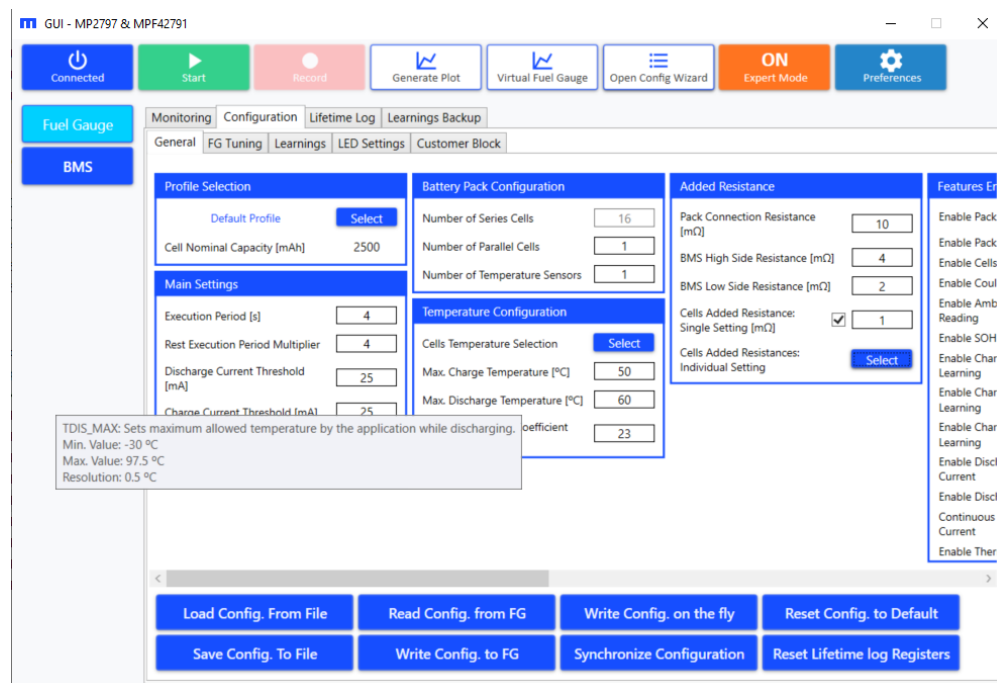

Figure 45: Fuel Gauge Configuration (Register Details)
- d. Place the cursor on top of a register name to display that register's information (see Figure 45). For more detailed information on the registers, refer to the MPF4279x datasheet.
The new generation offers a wide variety of learning configurations that can enhance performance. Hover the cursor over a parameter to read about that parameter’s information (see Figure 45 on page 34).